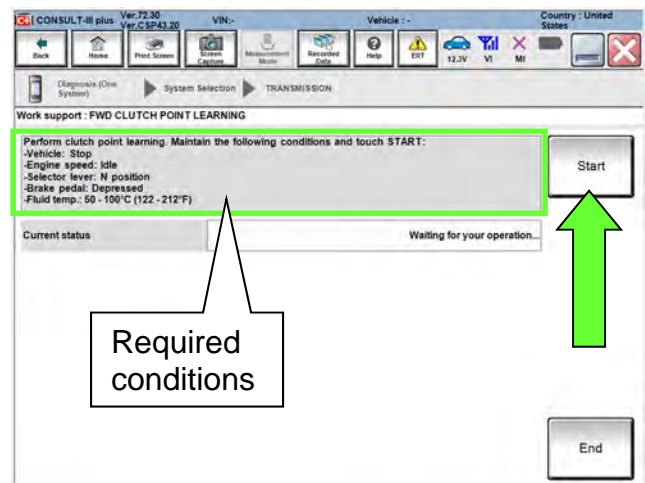

Figure 179
- Confirm that all of the conditions indicated in Figure 179 are being met.
186. While maintaining all conditions shown in Figure 179 and the Current status indicates EXECUTING, shift the CVT into **R** and then wait until the Current status indicates COMPLETED.